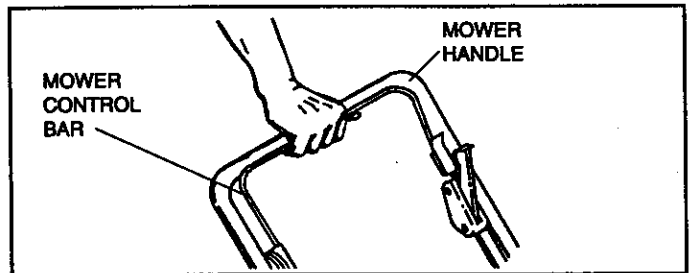

Figure 3
- A. Depress mower control bar (see Figure 3) against mower handle and hold it in this position.